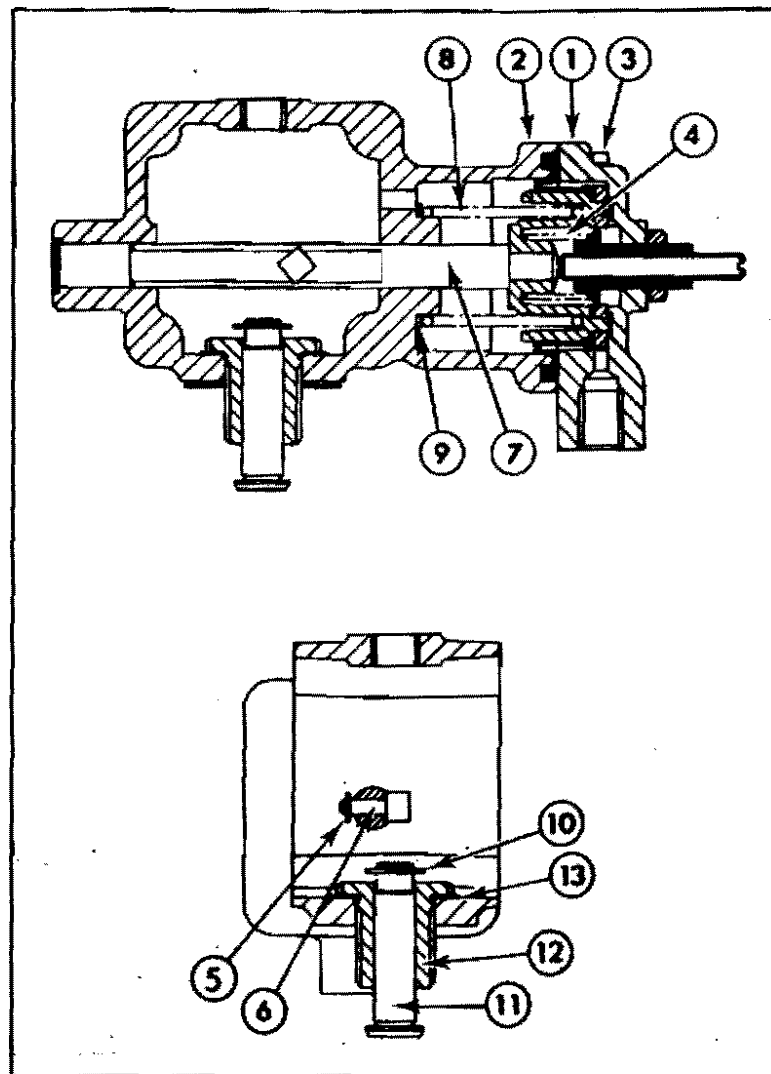

Fig. 59
5. Lightly scribe a line across edge of cover and housing (Fig. 59) to ensure correct position when reassembling. Slacken the four screws, apply slight pressure on the cover and remove the four screws and spring washers.